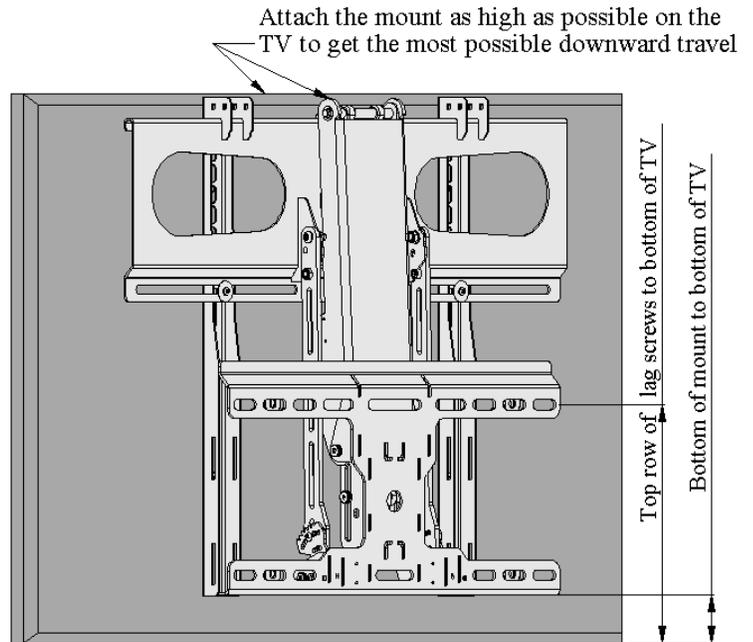

Figure 4, Mount Test Fitting
4. Figure 4 shows the important things to look for and measure.